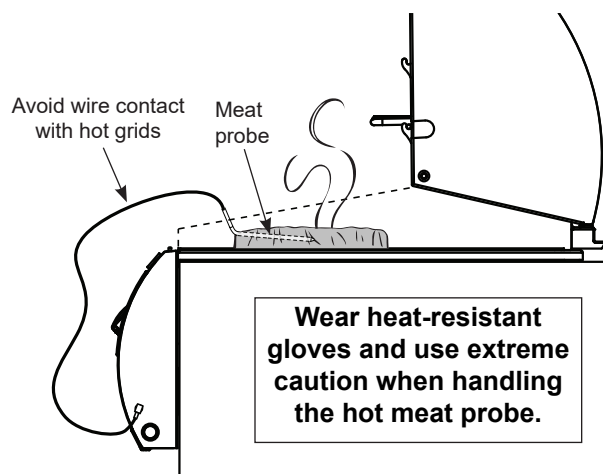

Fig. 32-3 Meat probe
- Meat probe wire is rated up to 800°F and cannot withstand continuous contact with flame. Avoid wire contact with hot cooking grids. See Fig. 32-3. If wire shows visible damage, meat probe needs to be replaced.